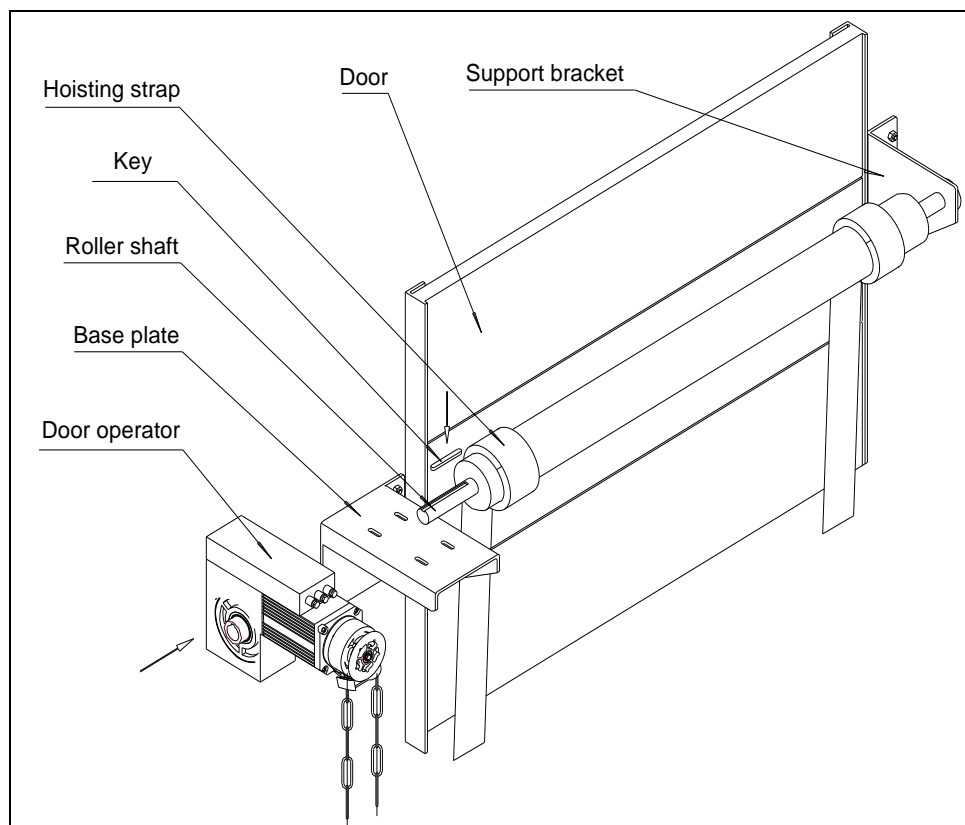

Fig.4
(3) Installation process:
- Fix the support bracket and base plate to the wall as shown in Fig.4.
- Insert the one end of the roller shaft into the bearing of support bracket, insert another end into the operator as required. ensure the correct position of the key (10×100).